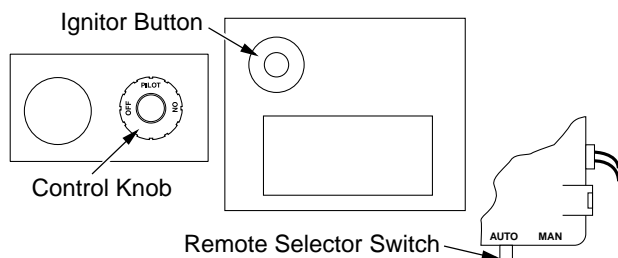

Figure 34 - Remote Selector Switch, Control Knob and Ignitor Button
3. Set remote selector switch in the AUTO position (see Figure 34).
4. Press in and turn control knob clockwise  to the OFF position (see Figure 34).
5. Wait five (5) minutes to clear out any gas. Then smell for gas, including near the floor. If you smell gas, STOP! Follow "B" in the safety information, page 17 column 2. If you don't smell gas, go to the next step.
6. Press in and turn control knob counterclockwise  to the PILOT position. Press in control knob for five (5) seconds (see Figure 34).
Press on/off key on remote control and turn control knob clockwise  to the OFF position (see Figure 34).
1. Turn control knob clockwise  to the ON position (see Figure 34, page 18).
When batteries are low, it is not possible to turn on the appliance with the remote control. Appliance can be turned on or off manually by setting the backup switch of the receiver to MAN position (see Figure 34, page 18). Remote control and receiver will restart normal operation after batteries are replaced. See *Installing Batteries for Remote Receiver and Hand Held Remote Control*, page 17.